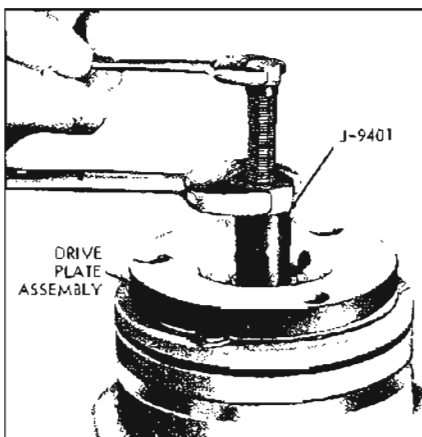

Figure 11-51—Removing Clutch Drive Plate
3. Install threaded Hub Puller (J-9401) onto hub of clutch drive plate (see Figure 11-51). Hold body of hub puller with wrench, tighten center screw of hub puller, and lift off clutch drive plate and woodruff key.